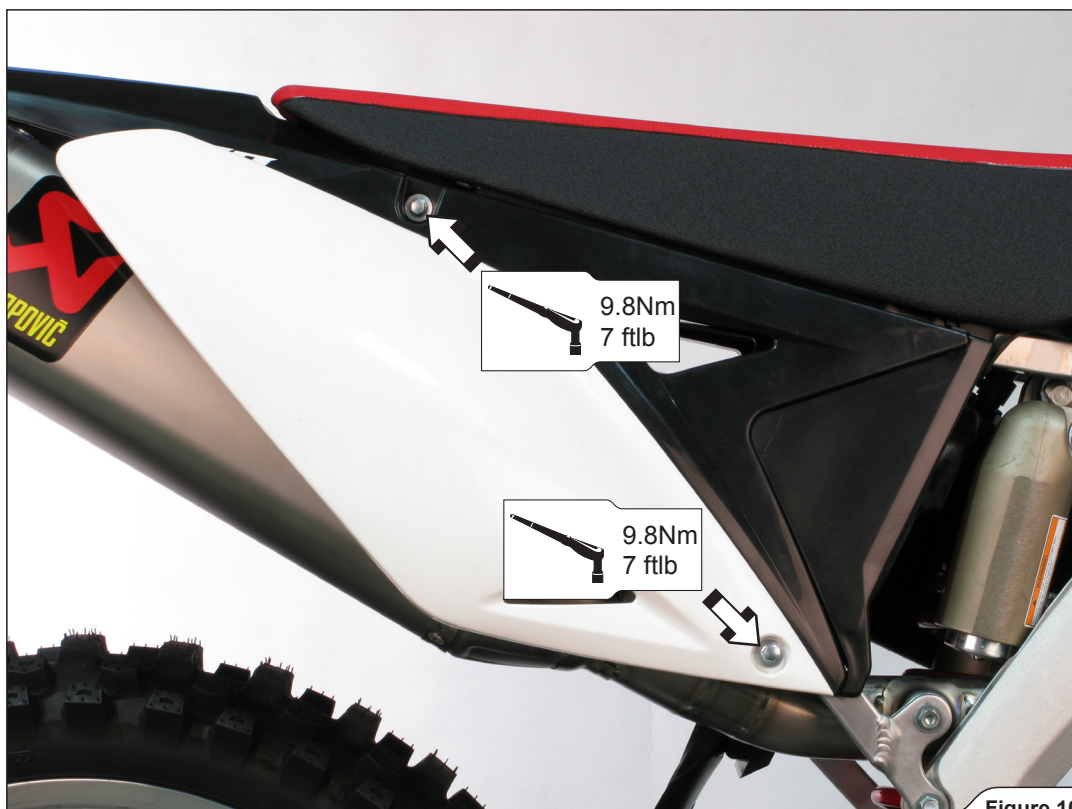

Figure 10
5. Reattach the right side panel and tighten the marked bolts to a specified torques (Figure 10).